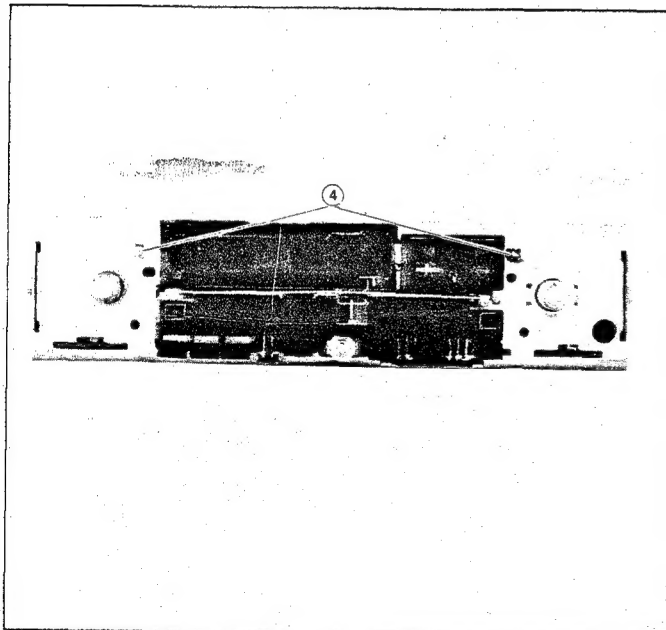
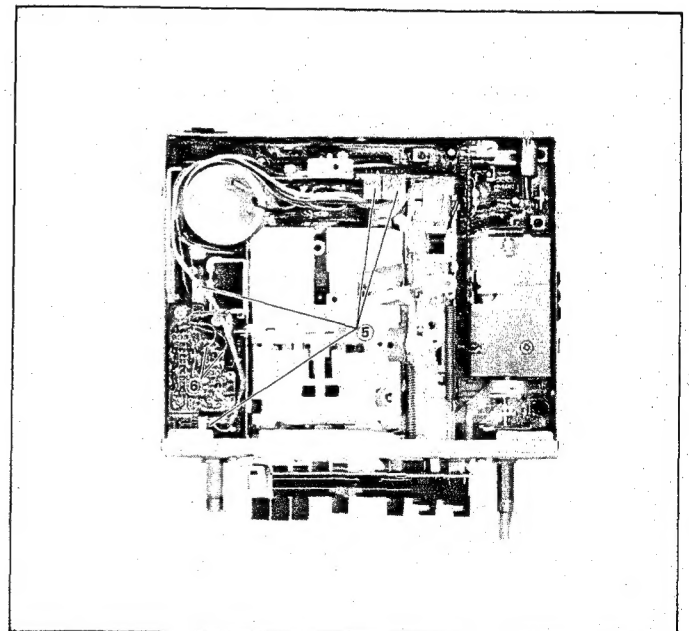

Figure 4-3
Figure 4-4
- ④ Remove the two (2) screws from the Mechanism chassis. (See Fig. 4-3)
- ⑤ Pull out the four (4) wiring connecting sockets provided on the printed wiring board.
- ⑥ Unsolder the two (2) leads from where the APSS PWB. (See Fig. 4-4)